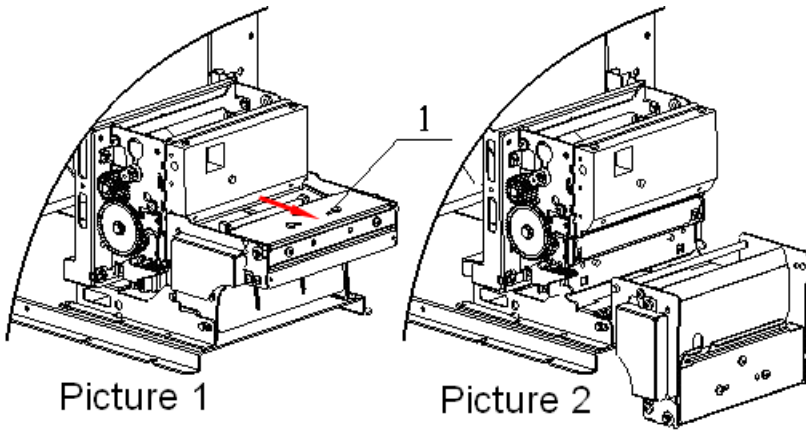

Fig. 5.2-3 Cleaning paper end sensor
4. Shown as in Fig.5.2-3, hold the Presenter shown in item1 with hands and pull it forcibly according to the arrow shown in the Figure below until the Presenter turns to the position shown in item 2 of the Figure below;